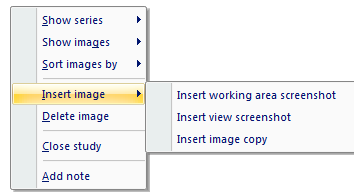

Figure 118 – Context menu of thumbnails palette
3. Press the right mouse button and select the **Insert image/Insert working area screenshot** item in the context menu (see Figure 118). Image from the current view will be inserted to the end of the target series automatically.
3. Press the right mouse button to display the context menu and select the **Insert image/Insert view screenshot** item (see Figure 118). The screenshot of the current view will be automatically inserted to the end of this series automatically.
3. Press the right mouse button to display the context menu (see Figure 118) and select the **Insert image/Insert image copy** item (see Figure 118). The image from the current view will be inserted to the end of this series automatically.
2. Press right mouse button to display context menu (see Figure 118) and select **Delete image** item. Image will be automatically deleted from series.